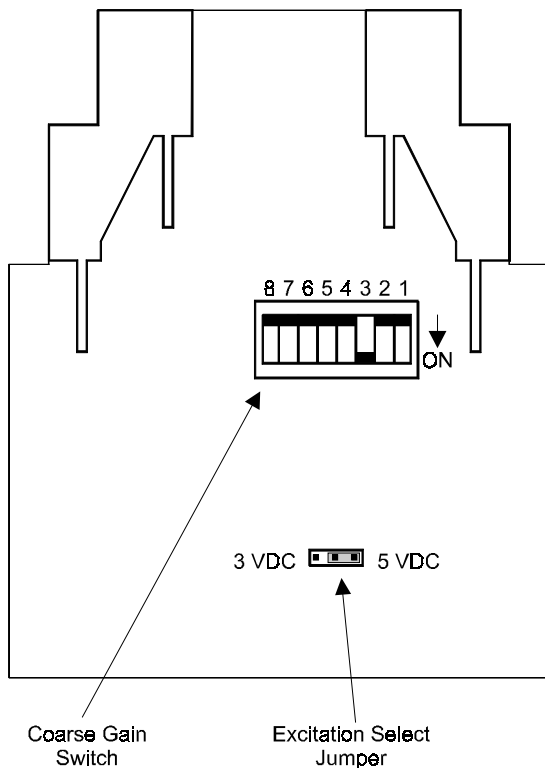

Figure 2-1: View of Circuit Board
2. Set the EXCITATION SELECT JUMPER as shown in Figure 2-1. This requires removing the circuit board from the enclosure. The Amplifier usually is set at the factory for 5 VDC excitation.
4. Set the COARSE GAIN SWITCH (See Fig.2-1 for location of switch) to the nearest mV/V setting in the corresponding excitation column in Table 1.